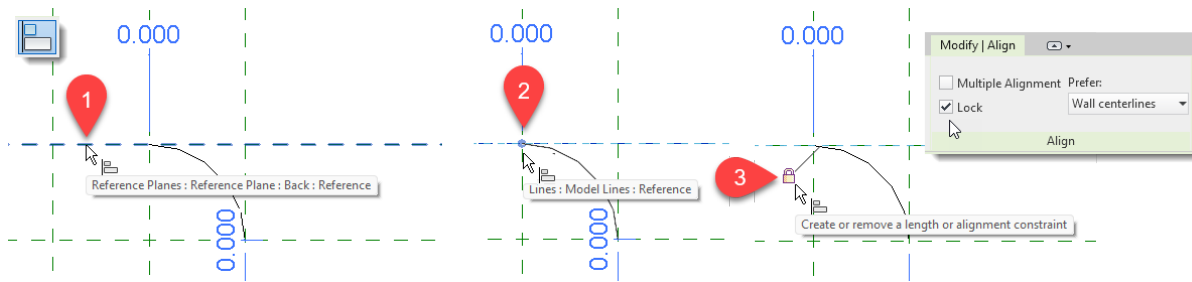

Figure 14—Align and lock endpoints
- ⇒ For the entity to align, click the endpoint of the arc. Lock it (see Figure 14).
Alternatively, there is a Lock checkbox on the ribbon (see the upper-right corner of Figure 14). You can click this to align and lock in a single step.